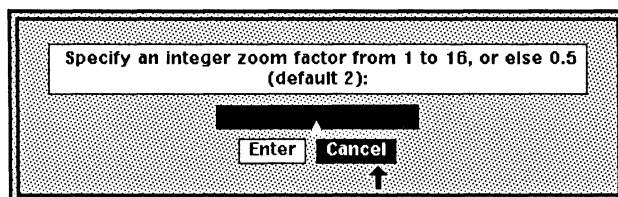

Figure 19-29. Numeric stickup
**Numeric** lets you specify the display size of a diagram (Figure 19-29).